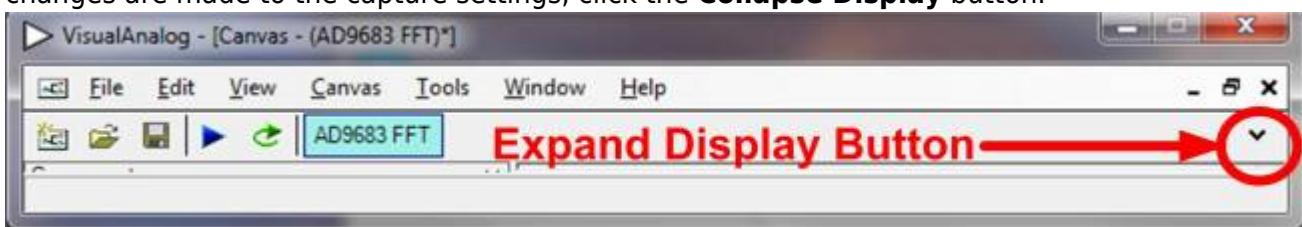
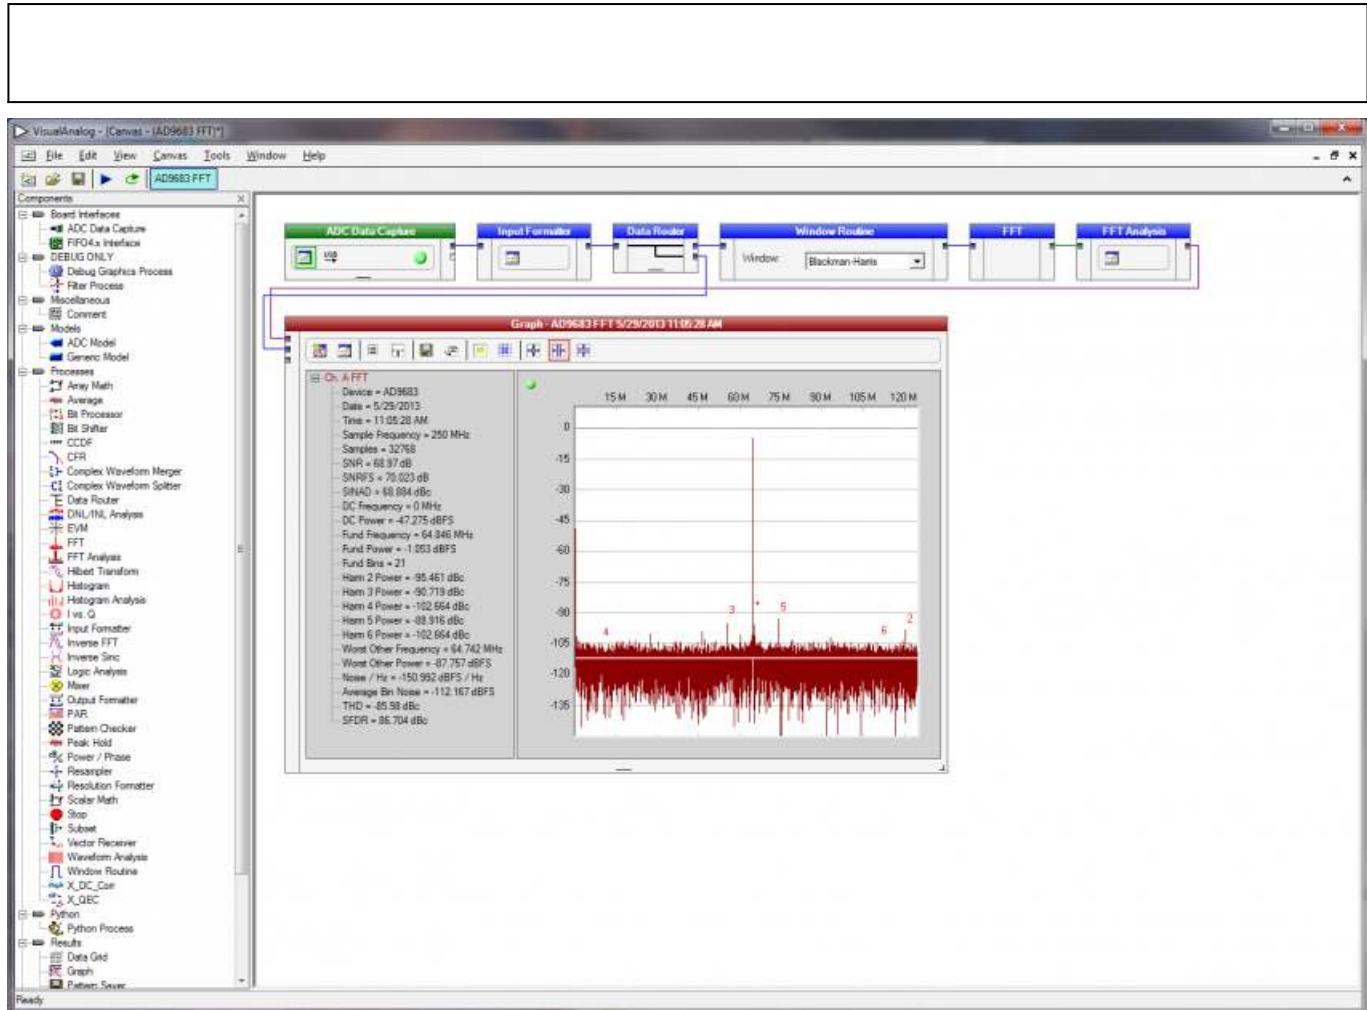

Figure 6. VisualAnalog Window Toolbar, Collapsed Display
Figure 7. VisualAnalog, Main Window, Expanded Display
1. To change features to settings other than the default settings, click the **Expand Display** button, located in the bottom right corner of the window (see Figure 6), to see what is shown in Figure 7.